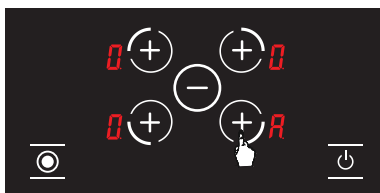

Figure 13
3. Then press the appropriate hotplate selection button again, the automatic heating function is activated and the display shows the symbol **A**. (See Fig. 13.)